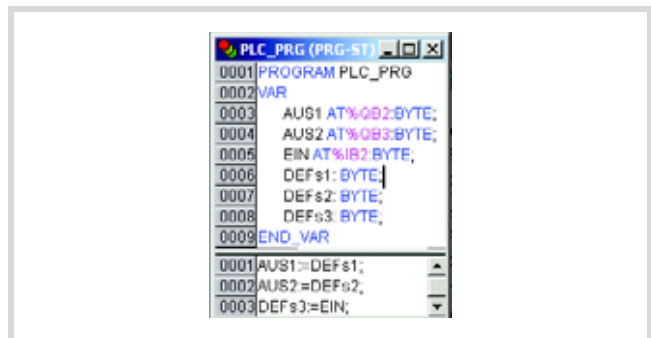

Figure 91: User program for XC100
► Create the program in accordance with Figure 91.